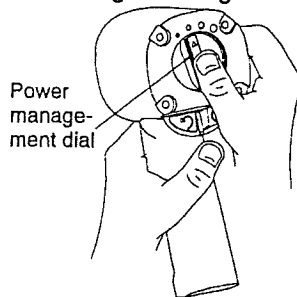

Figure 3
1. Remove the Motor Assembly from the Housing (19) by pushing on Power Management Dial (41) from the back of the Housing. See Figure 3.